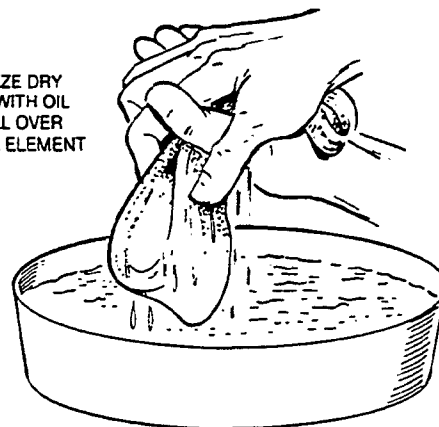

FIGURE 11. AIR CLEANER ASSEMBLY
1. To clean precleaner, wash in water and detergent (Figure 11). Remove excess water by squeezing like a sponge and allow to dry thoroughly. Distribute two tablespoons of SAE 30 engine oil evenly around the precleaner. Knead into the precleaner to distribute oil evenly. Wring out excess oil.